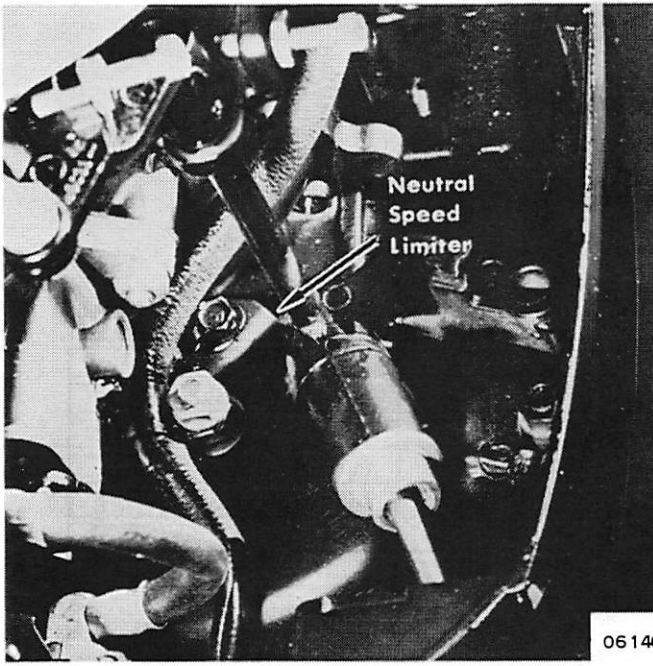

Figure 7. Maximum Neutral RPM - Merc 110-75
2. Adjust neutral speed limiter stop to obtain a maximum speed of 2400-2700 RPM. (Figure 7)